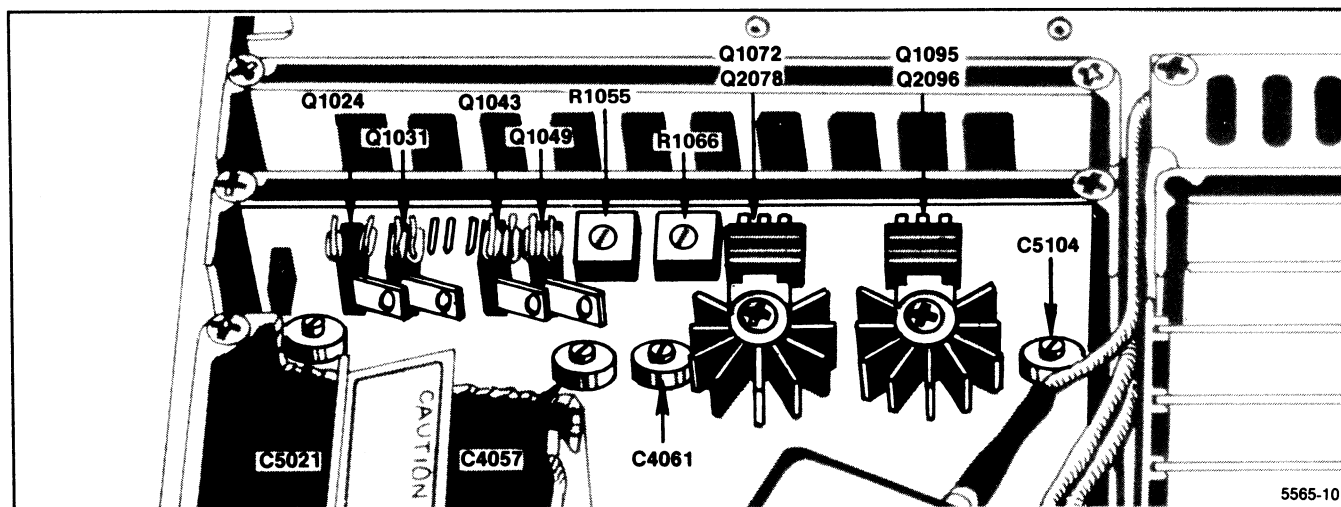

Figure 5-6. Deflection Amplifier test points and adjustments.
k. Monitor the collectors of Q1031 and Q1024, on the Deflection Amplifier board, with test oscilloscope. See Figure 5-6 for the locations of Q1031 and Q1024.
- n. Adjust C4057 (Figure 5-6) for the best response.